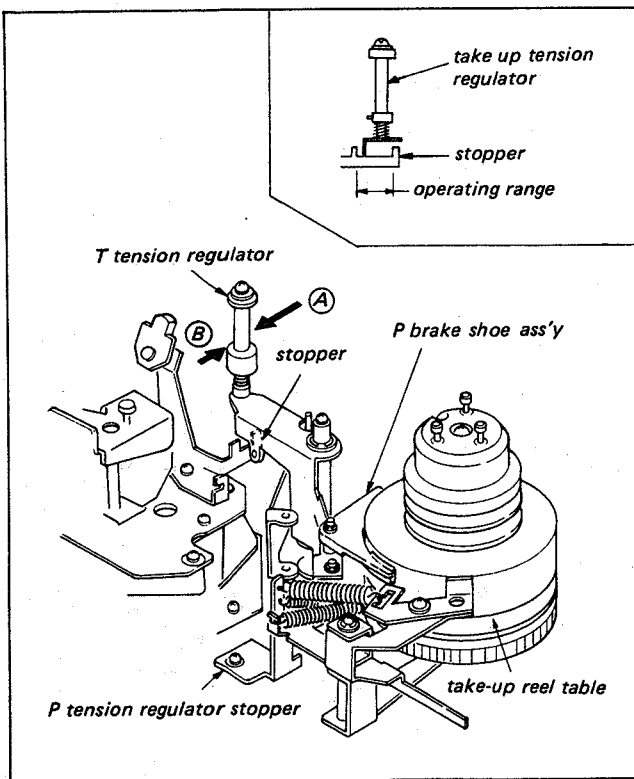

Fig. 4-22. T. tension regulator operating position adj. (Be sure POWER ON, in FWD mode without cassette.)
2. Push the T.Tension Regulator fully to the left (in (A) direction) with finger as shown in Fig. 4-22 as far as it will go. Remove the finger gently from the T.Tension Regulator so that the T.Tension Regulator will slowly and naturally move to the right (in the (B) direction).
3. Measure the movable distance of the T.Tension Regulator from the position established by step 2, to the position where the T.Tension Regulator is blocked by the Stopper, shown in Fig. 4-22. Practical procedure of measurement. Measure the distance how far the T.Tension Regulator moves when it is pushed by a finger to the right (in (B) direction) until it is blocked by the Stopper from the position established by step 2. The movable distance should be 0.05 mm to 0.1 mm. If not, adjust the location of the P.Tension Regulator Stopper with use of 4 mm diameter eccentric screw driver (Jig Ref. No. J-5).
3. Measure the movable distance of the T.Tension Regulator from the position established by step 2, to the position where the T.Tension Regulator is blocked by the Stopper, shown in Fig. 4-22. Practical procedure of measurement. Measure the distance how far the T.Tension Regulator moves when it is pushed by a finger to the right (in (B) direction) until it is blocked by the Stopper from the position established by step 2. The movable distance should be 0.05mm to 0.1mm. If not, adjust the location of the T.Tension Regulator Stopper with use of 4mm diameter eccentric screw driver (Jig Ref. No. J-5)